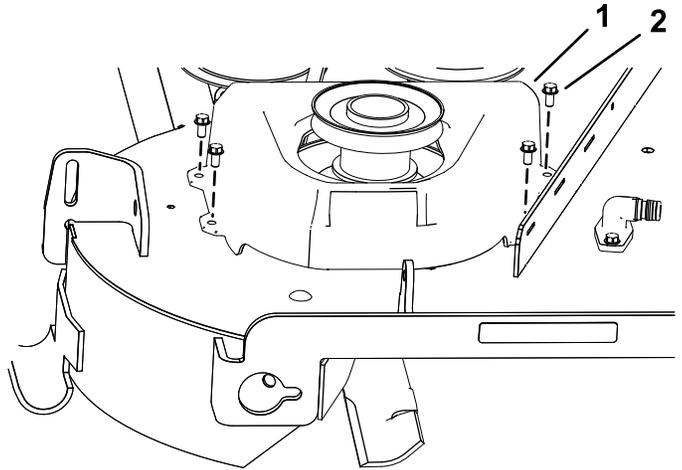

Figure 12
4. Install the new belt cover over the pulley assembly using the 4 previously removed screws (1/4 x 1/2 inch) as shown in Figure 12.